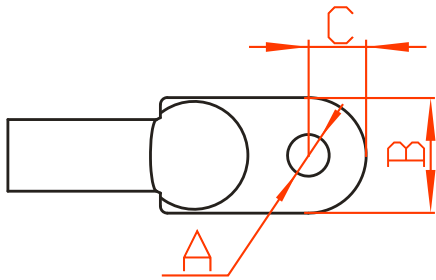

Figure3-29 Terminal size requirements
- When the AC output uses copper wire, it is recommended to use DT/OT terminals (as shown in Figure3-29). The terminal size requirements are: $13\text{mm} \leq A \leq 15.5\text{mm}$, $B \leq 46\text{mm}$, $C \leq 22\text{mm}$.